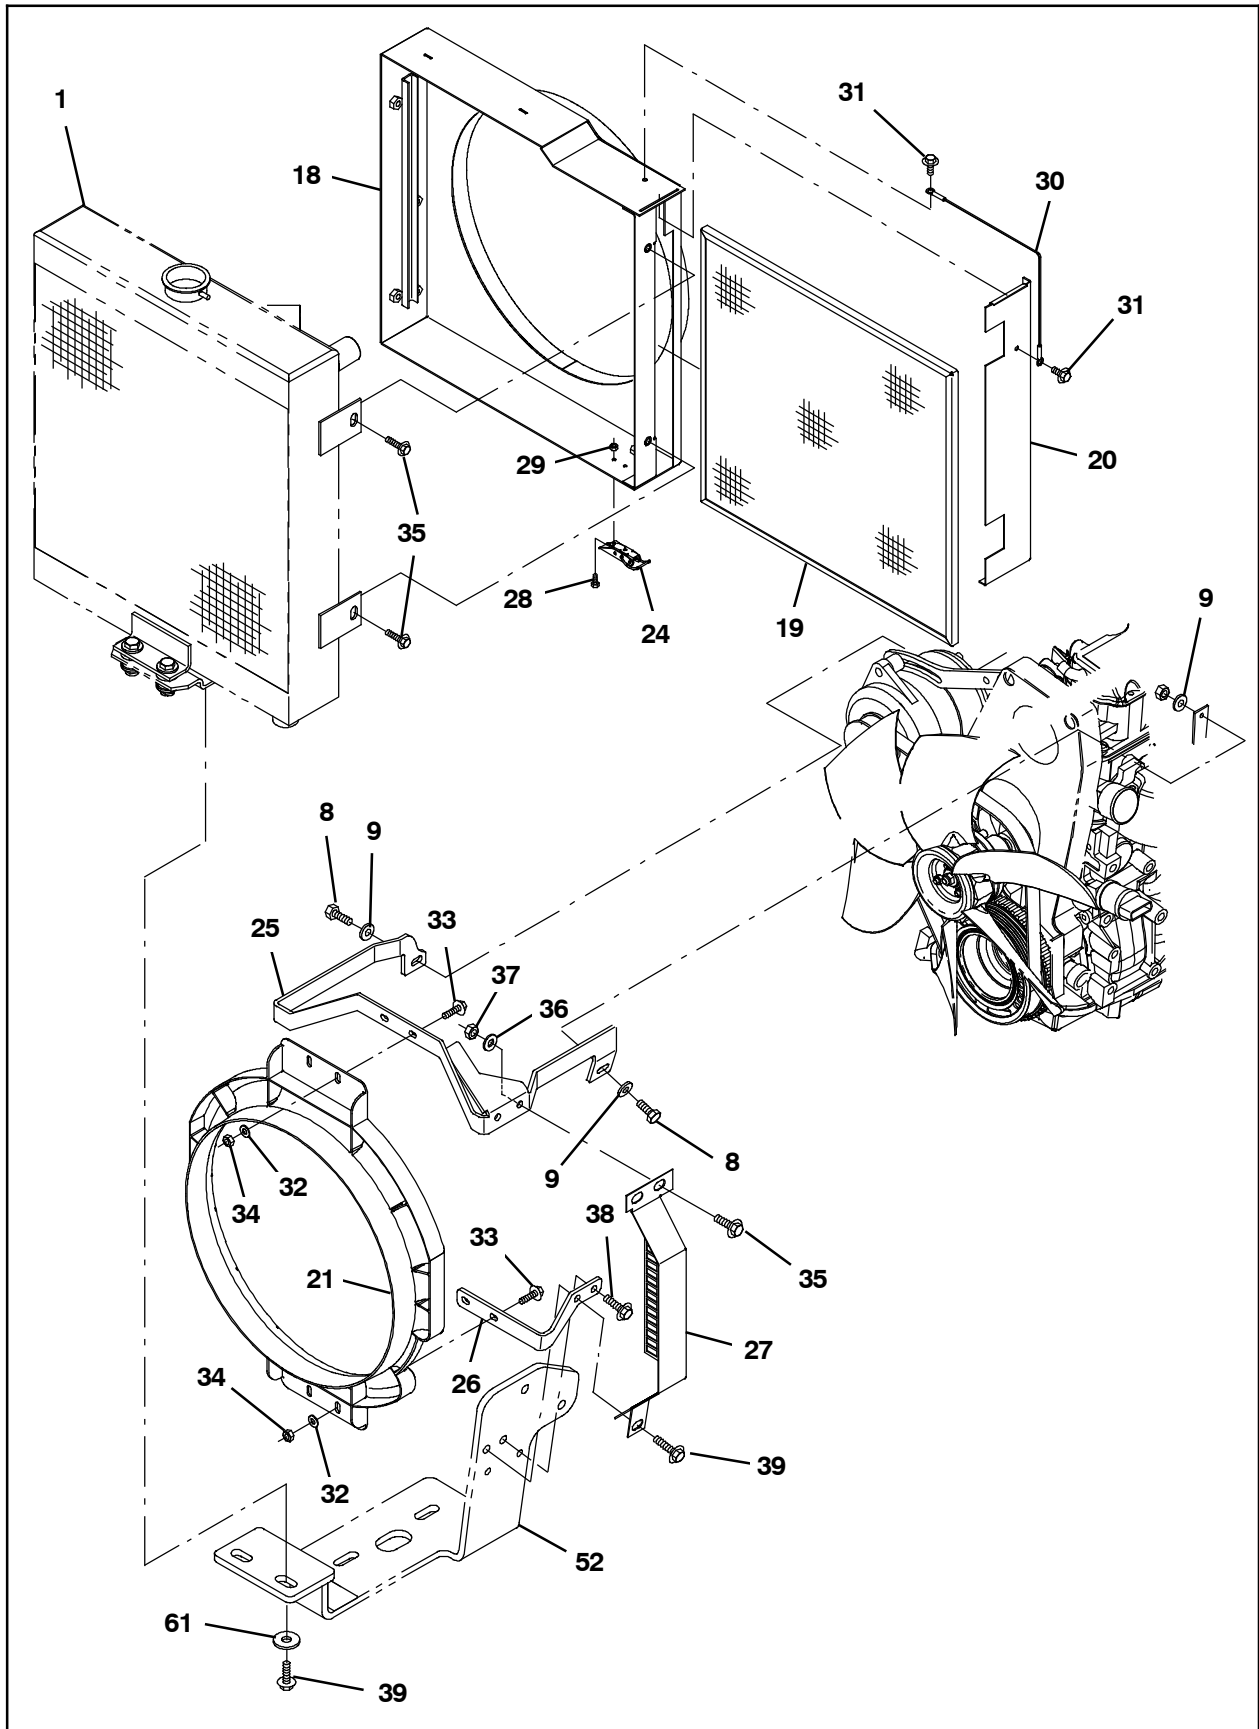
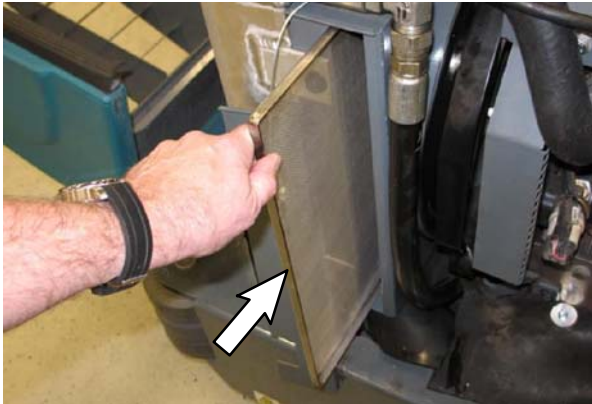

FIG. 7
FIG. 13
17. Use two M8 hex screws (8) and two flat washers (9) to install the upper fan shroud bracket (25) onto the engine. (Fig. 7)
18. Use one SEMS M8 hex screw (38) to install the lower fan shroud bracket (26) onto the engine mounting bracket (52). (Fig. 7)
NOTE: The fan shroud (4) must be positioned on the machine as shown in Fig. 7.
19. Use two SEMS M6 hex screws (33), two flat washers (32), and two M6 hex nuts (34) to install the fan shroud (21) onto the upper fan shroud bracket (25). (Fig. 7)
20. Use two SEMS M6 hex screws (33), two flat washers (32), and two M6 hex nuts (34) to install the fan shroud (21) onto the lower fan shroud bracket (26). (Fig. 7)
22. Tighten the hardware installed in Step 18 through Step 21. (Fig. 7)
24. Use two SEMS M8 hex screws (35), two flat washers (36), and two M8 hex nuts (37) to install the radiator shroud bracket (27) onto the upper fan shroud bracket (25). (Fig. 7)
25. Use one SEMS M8 hex screw (39) to install the radiator shroud bracket (27) onto the lower fan shroud bracket (26) / engine mounting bracket (52). (Fig. 7)
26. Use two M4 hex screws (28) and two M4 hex nuts (29) to install the latch (24) onto the radiator fan bracket (18). (Fig. 7)
27. Use three M8 hex screws (35) to install the radiator fan bracket (18) onto the radiator (1). (Fig. 7)
29. Use one M6 hex screw (31) to install the cable (30) onto the radiator fan bracket (18). (Fig. 7)
30. Use another M6 hex screw (31) to install the cable (30) onto the screen cover plate (20). (Fig. 7)
31. Install the screen cover plate (20) onto the radiator fan bracket (18). (Fig. 7)
38. Remove the screen cover plate (20) from the radiator assembly and install the radiator screen (19) into the radiator assembly. (Fig. 13 / Fig. 7)